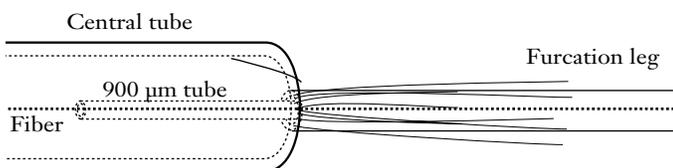

Figure 13
- Slide the legs onto the fibers until the 2 inches (5 cm) of exposed 900 μm tubing slides into the central tube of the fiber optic cable (Figure 13).